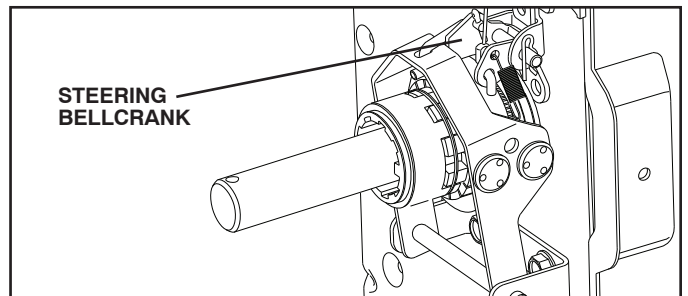

FIG. 30
- Remove the plastic power steering covers. Fig. 30.